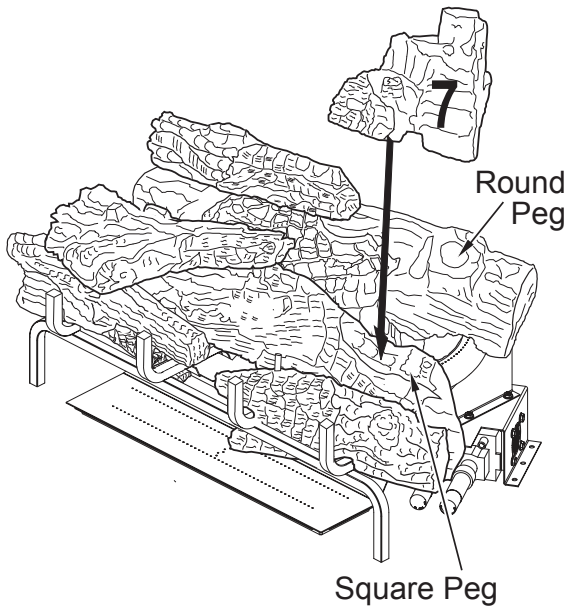

Figure 28 - Installing Log # 7
7. Place the right rear chunk log (#7) on top of the middle log (#2) and rear log (#1) as shown in Figure 28, page 18. Match the round peg on the top of the rear log (#1) with the round hole on the bottom of the right rear chunk (#7) log and square peg on the top of the middle log (#2) with the square hole on the bottom of the right rear chunk log (#7).